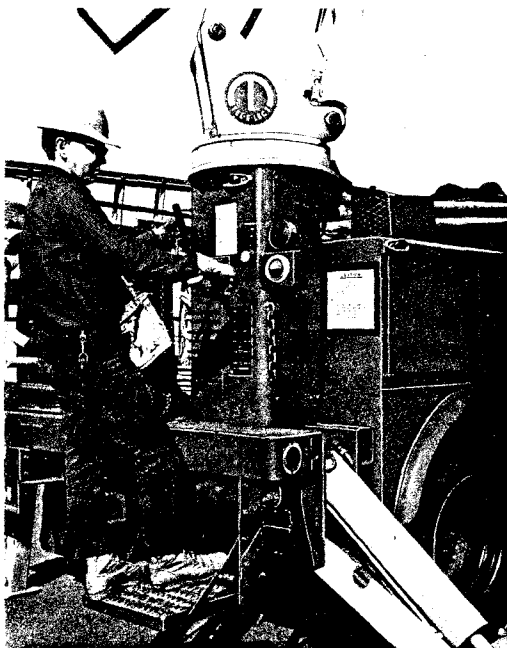

Fig. 2—Control Console Location—Rear Corner Mounted Derrick (Obsolete)
2.04 A control valve, retractable hose reel, and quick coupling outlets for use with hydraulic pole pullers are installed on the truck as part of the derrick equipment. The hydraulic control valves for the winch, derrick functions, digger, pole grabber, pole puller, and stabilizers are mounted on a control console. The control console is located to provide the operator with the best view of the work operation being performed and to prevent contact with ground when performing work near power lines. The control console location for an older model corner mounted derrick is shown in Fig. 2. Newer models are fitted with consoles to provide operator protection.